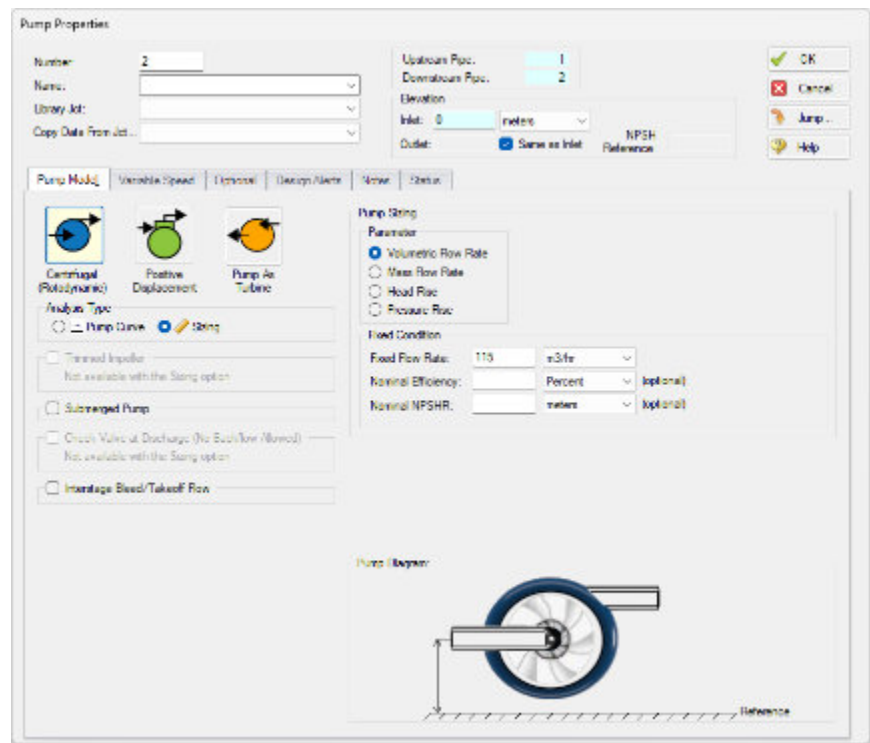

Figure 2.17 Properties window for the J2 Pump
- **Next, open the Properties window for the J2 Pump junction.** Remember this example sizes a centrifugal pump. By default, the junction assumes a Centrifugal (Rotodynamic) pump, so select Sizing for the Analysis Type. For the Pump Sizing Parameter, use Volumetric Flow Rate, and enter the Fixed Flow Rate as 115 m³/hr. Set the junction Inlet Elevation as 0 meters (see Figure 2.17). Click OK to close the window.